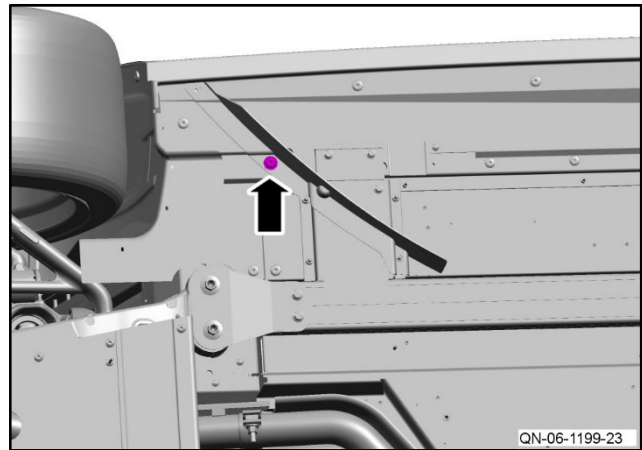

Figure 33
- 32 Install and torque the screw that attaches the right side aero fence to the vehicle body to 9 Nm (refer to Figure 33).